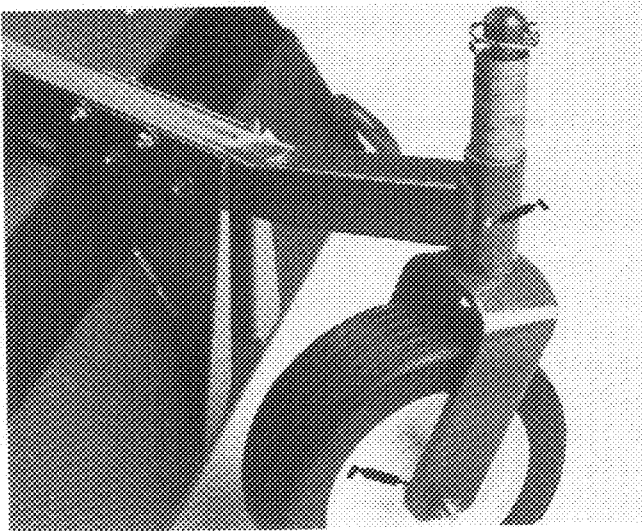
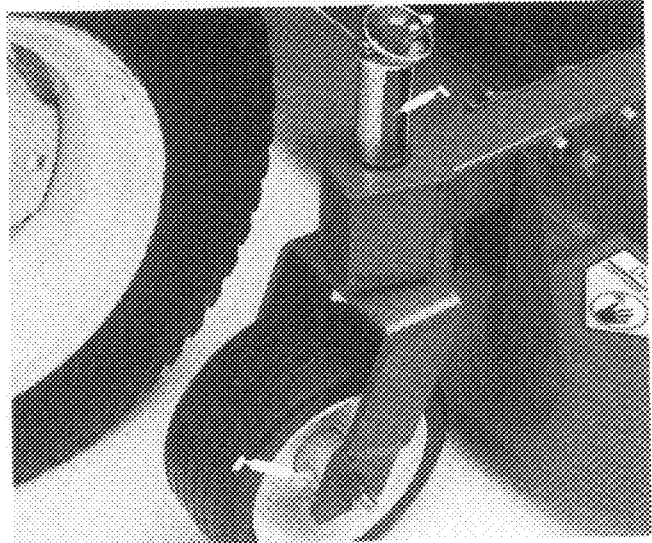
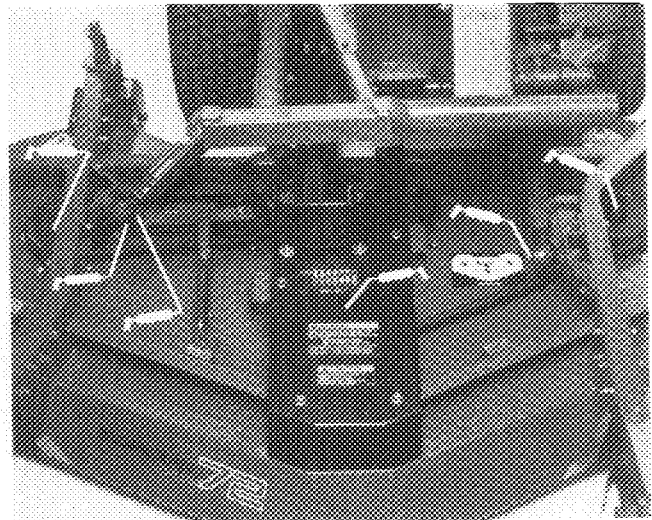

figure 13
Figure 14
Figure 15
GREASE BEARINGS, BUSHINGS AND GEAR BOX (Fig. 13–16)
1. The cutting unit has bearings and bushings that must be lubricated, and these lubrication points are: front castor spindle bushings (Fig. 13); rear castor spindle shaft (Remove shaft from castor arm and coat hex shaft with designated grease every 50 hours (Fig. 14); castor wheel bearings (Fig. 13 & 14); blade spindle bearings (Fig. 15); idler arm pivot (Fig. 15); right and left push arm ball joints (Fig. 15).